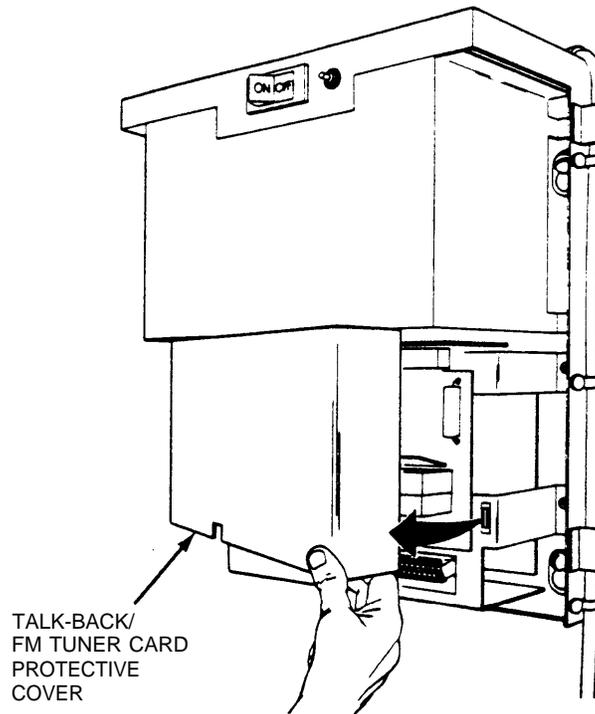

Figure 2-3. Opening PagePac VS Talk-Back/FM Tuner Card Protective Cover
1. Open the talk-back/FM tuner card protective cover. This cover is hinged on the left side and held in place on the right side by magnets. To open, grasp the cover on the right side, pull and open to the left as shown in Figure 2-3.
2. Open the talk-back/FM tuner card protective cover. This cover is hinged on the left side and held in place on the right side by magnets. To open, grasp the cover on the right side, pull and open to the left as shown in Figure 2-3.